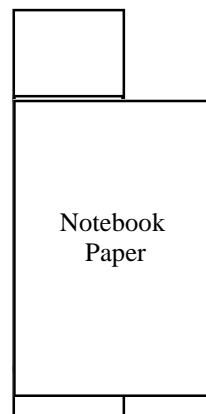

FIGURE 4
1. Use a piece of notebook paper (or a square if you have one) to check if the slots are square with the car body (see Figure 4). If a slot is not perfectly square with the body, either re-cut the axle slots on the opposite side of the car, exchange the car kit for a new car kit, or purchase a new block at a hobby store.